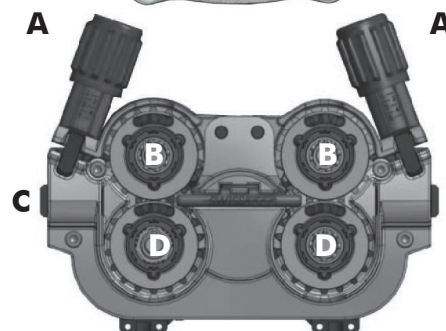

Figure 2 - Wire Feeding Motor
- Loosen and lower the plastic knob (A-Type) or knobs (B- & C-Type) (A) (Figure 2). Open the pressure arms (B) of the feeder. (Extract the wire from the torch liner if some wire is left into the torch).
- When the wire is disconnected, grasp it with pliers so that it cannot exit from the spool. If necessary, straighten it before inserting it in the wire input guide (C). Insert the wire on the lower roll (D) and in the torch liner.
- Lower the pressure arm (B) and place the knob or the knobs (A). Tighten slightly. If tightened too much, the wire gets locked and could cause motor damage. If not tighten enough, the rolls will not feed the wire.